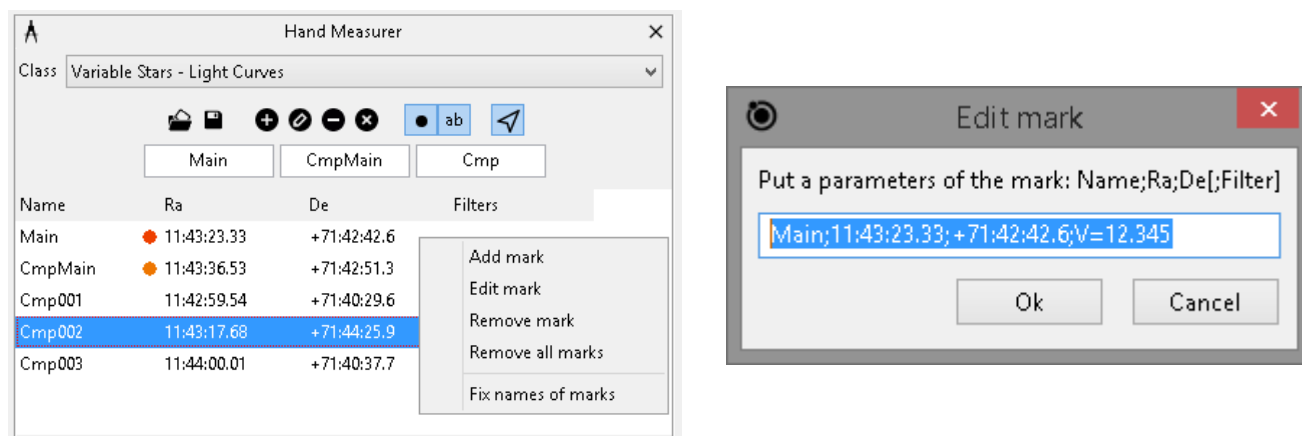

Figure 14. "Hand Measurer" window, context menu for the mark
- to add, edit and remove marks manually (Figure 14):